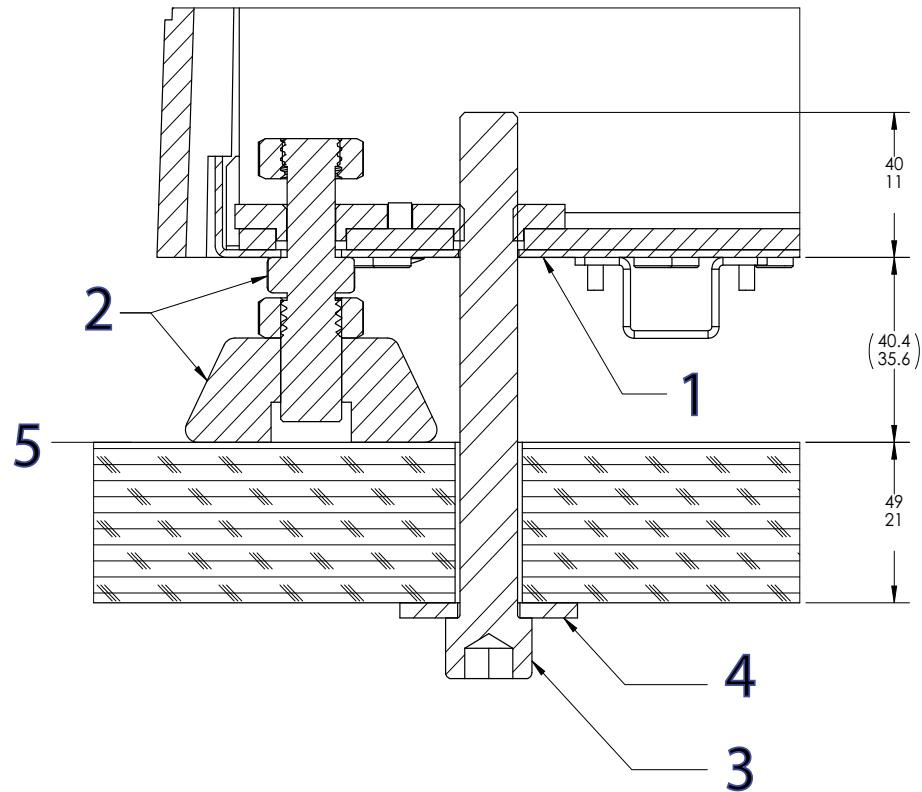

Figure 15. Secure the frame to the table
Legend for Figure 15
3. Install each bolt and oversized washer as shown in Figure 15 on page 70.